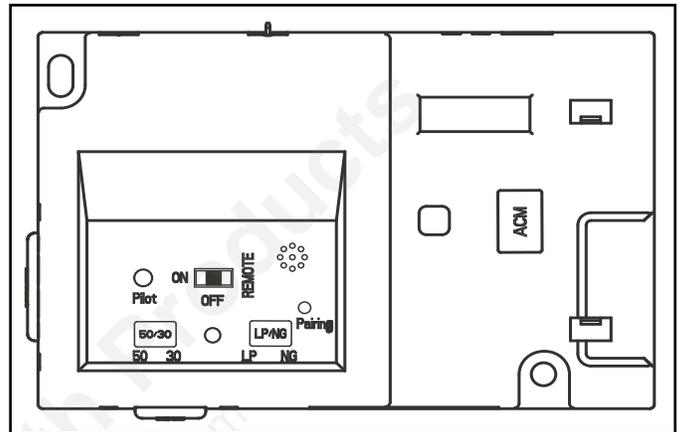

Figure 7. IFT-ECM
1. The Electronic Control Module (IFT-ECM) has a three-position ON/OFF/REMOTE selector switch that must be set for proper operation. See figure 7. When changing switch positions, it is important to pause in each position for 1-2 seconds.